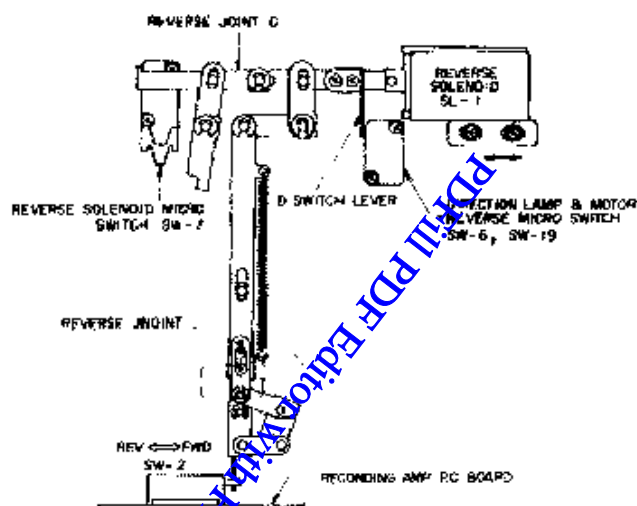

Fig. 5
11. PAUSE ADJUSTMENT (Refer to Fig. 5)